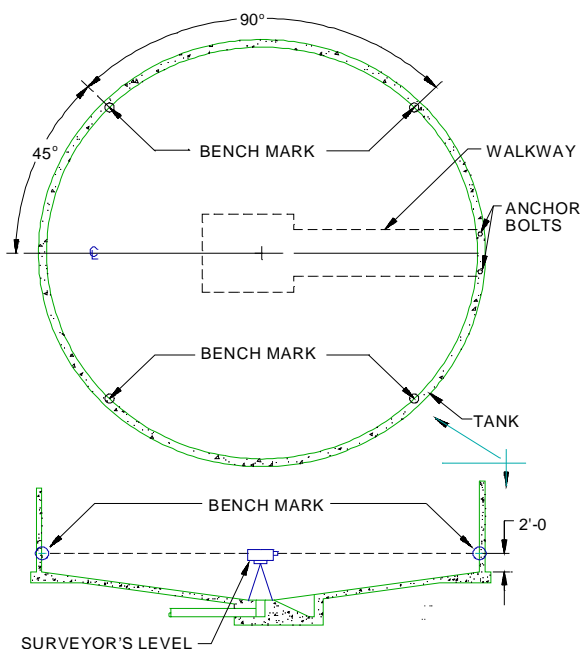

Figure 2.AB.1. Bench Mark Drawing.
2. Install walkway anchors with respect to the walkway centerline as noted in (1) above.
6. Using a surveyor's level, benchmark the tank wall at four equally spaced locations (90 degrees apart) and approximately 2 feet above tank bottom. These marks will be used later to check final level of the drive. They should be oriented 45 degrees from walkway centerline. See Figure 2.AB.1.